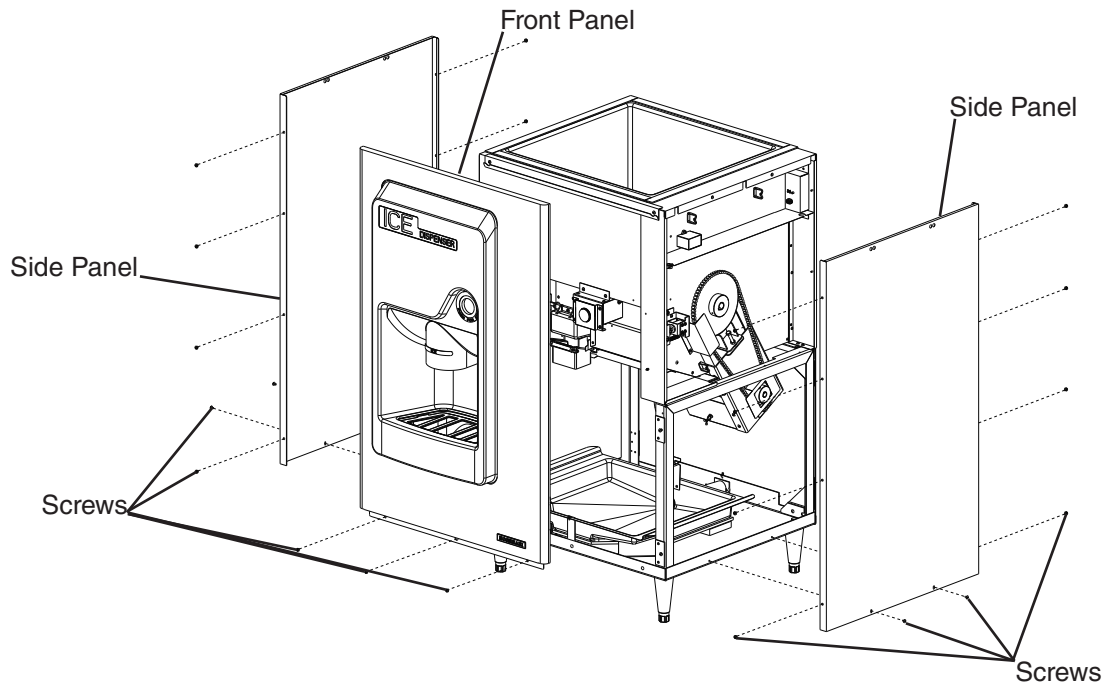

Fig. 3
- Front Panel: Remove the screws. Lift up and towards you. See Fig. 3.